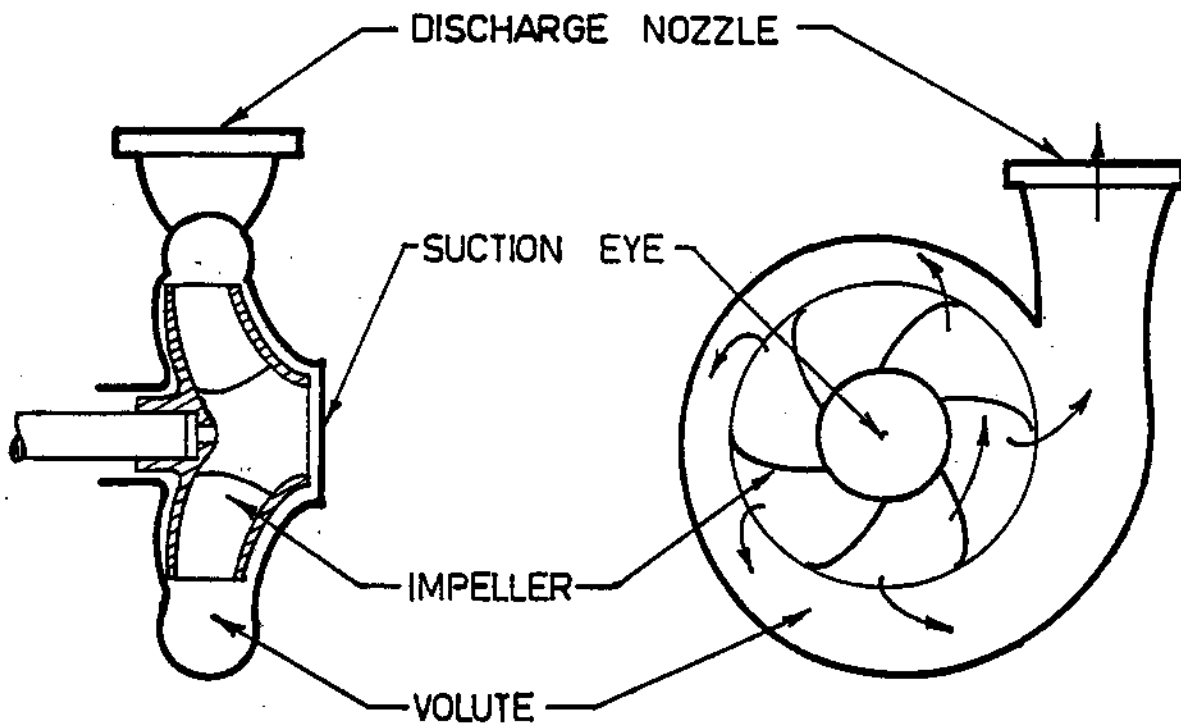

Figure 9
Centrifugal pumps are not pressurizing the liquid directly like positive displacement pumps. The mechanism creating a pressure head is as follows: liquid entering the impeller is flung into the volute with increased velocity (Figure 9). In other words the impeller imparts kinetic energy to the liquid. The liquid enters the volute, the cross section of which is increasing towards the discharge. This results in a decrease of velocity of the liquid and decrease of its kinetic energy. Because energy cannot be destroyed but only converted into another type of energy, decrease in
- (a) in a volute, which is the scroll in a casing surrounding the impeller (Figure 9);